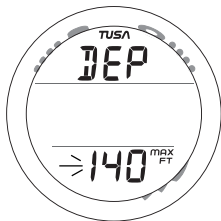

Fig. 38 - SET DEPTH ALARM
**Set Depth Alarm** information includes (Fig. 38):